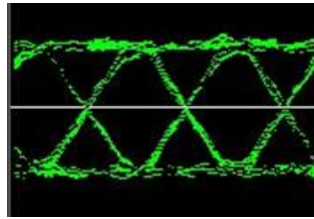

Figure 18: "Clean" Eye Pattern
- The eye pattern NEVER looks "clean," as in Figure 18